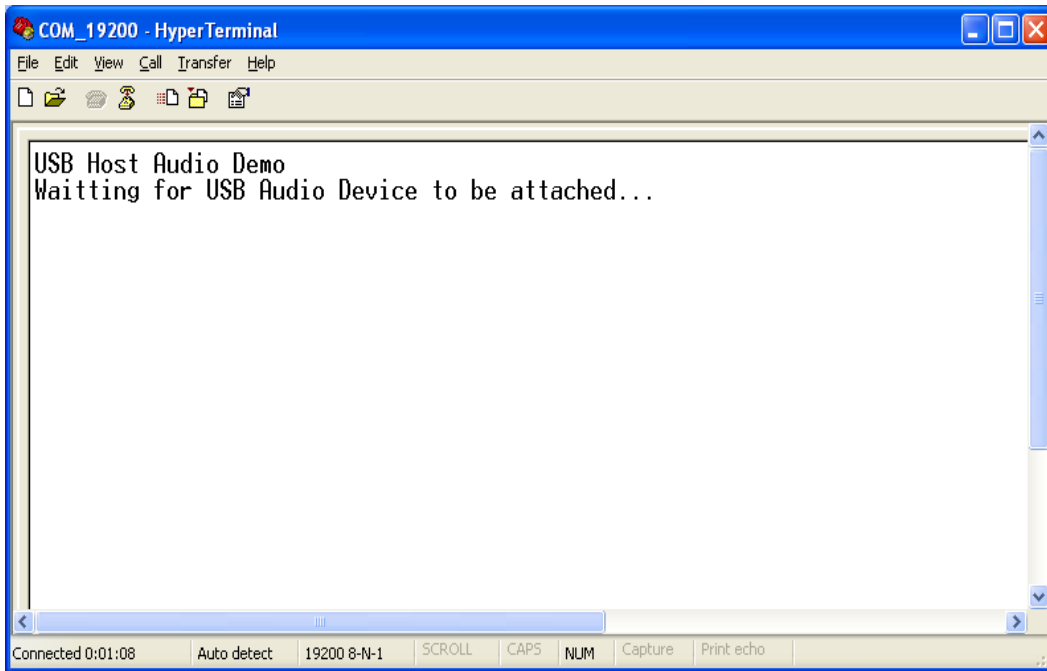

Figure E-2. USB Host waiting for audio device attachment event
2. After the image has been loaded successfully, the HyperTerminal appears as shown in Figure E-2.